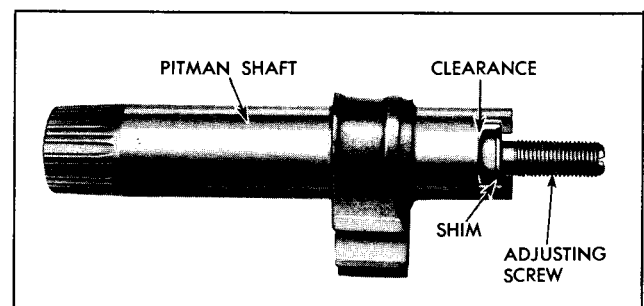

Fig. 9-72 Pitman Shaft and Adjusting Screw
14. Slide the adjuster screw and shim out of the slot in the end of the pitman shaft (Fig. 9-72).